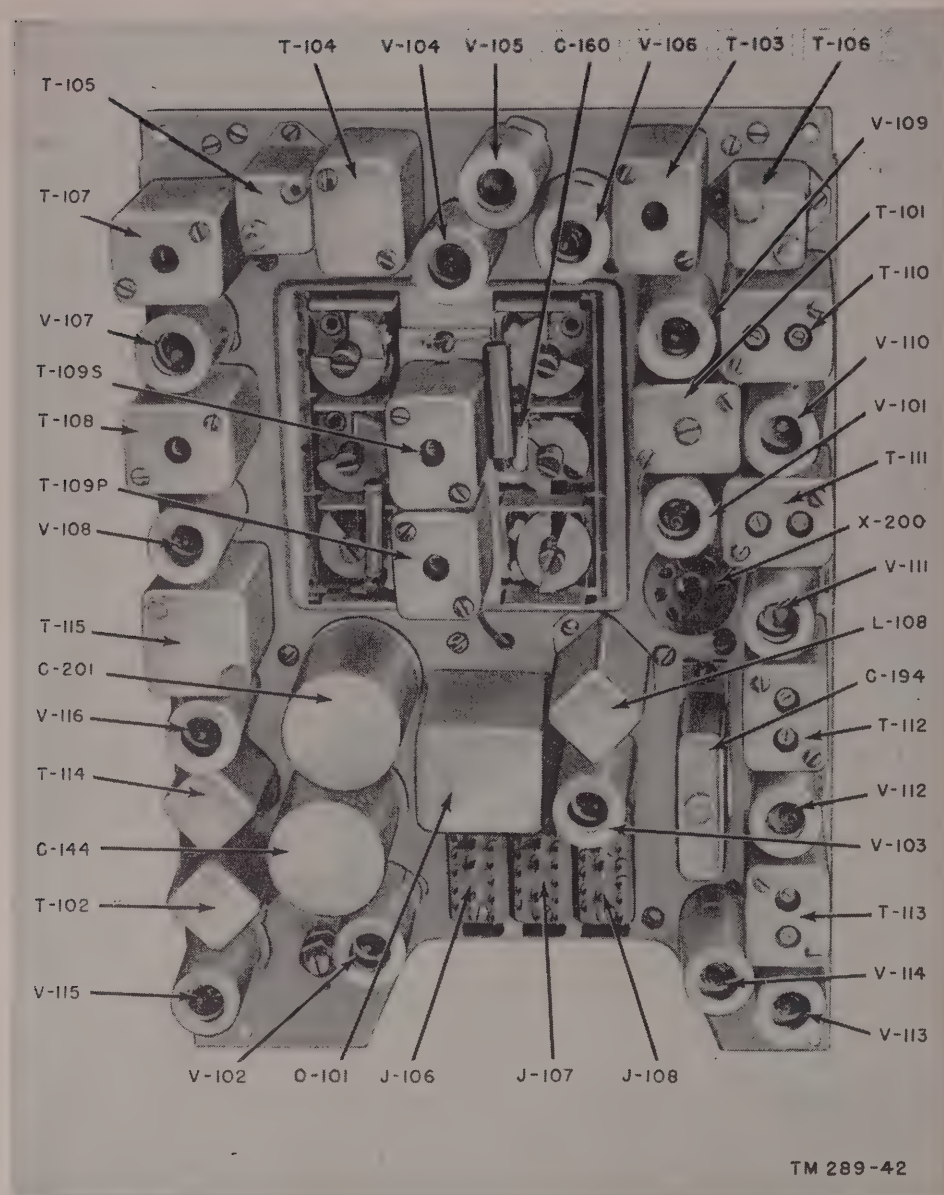

Figure 49. Receiver-transmitter, view of i-f chassis.
a. Tubes V-1 through V-11 are mounted on the r-f chassis (figs. 47 and 48). Tubes V-101 through V-116 are mounted on the i-f chassis (fig. 49). With the exception of V-11, each of these tubes may be removed with a tube puller after the shield is removed.